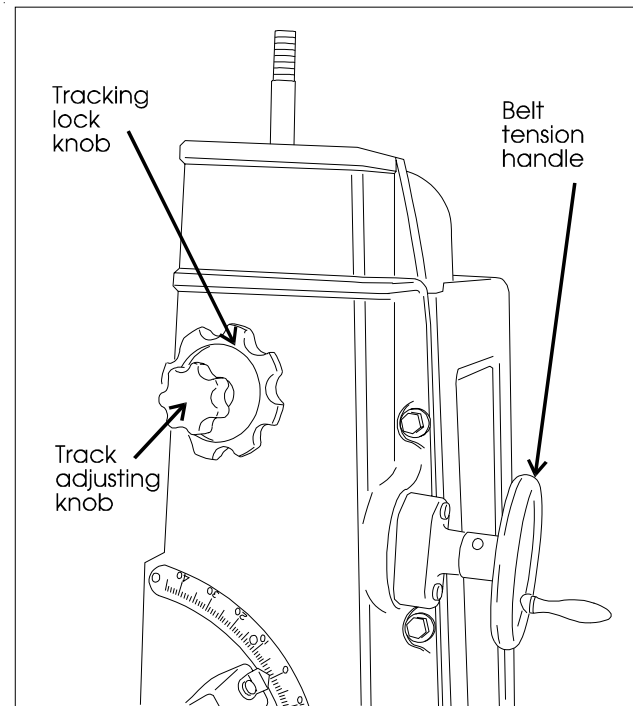

Figure 7: Belt adjustment components (Note top cover removed for removal and replacement of belt.)
4. Release the belt tension by turning the tension handle in a counterclockwise direction (See Figure 7). If the handle is difficult to turn, perform *Track Mechanism Maintenance* according to the instructions following this section.